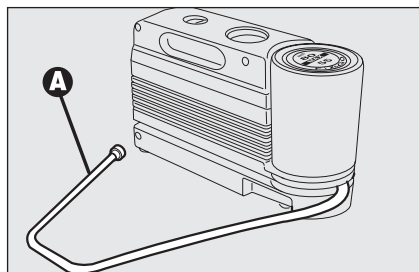
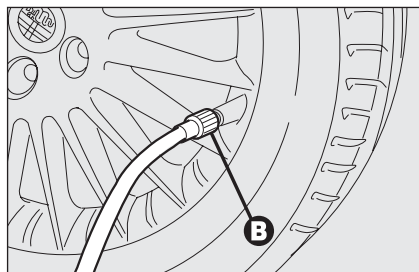

fig. 14
fig. 15
- ❑ loosen tyre inflation valve cap, take out the filler hose **A-fig. 14** and screw the ring nut **B-fig. 15** on the tyre valve;